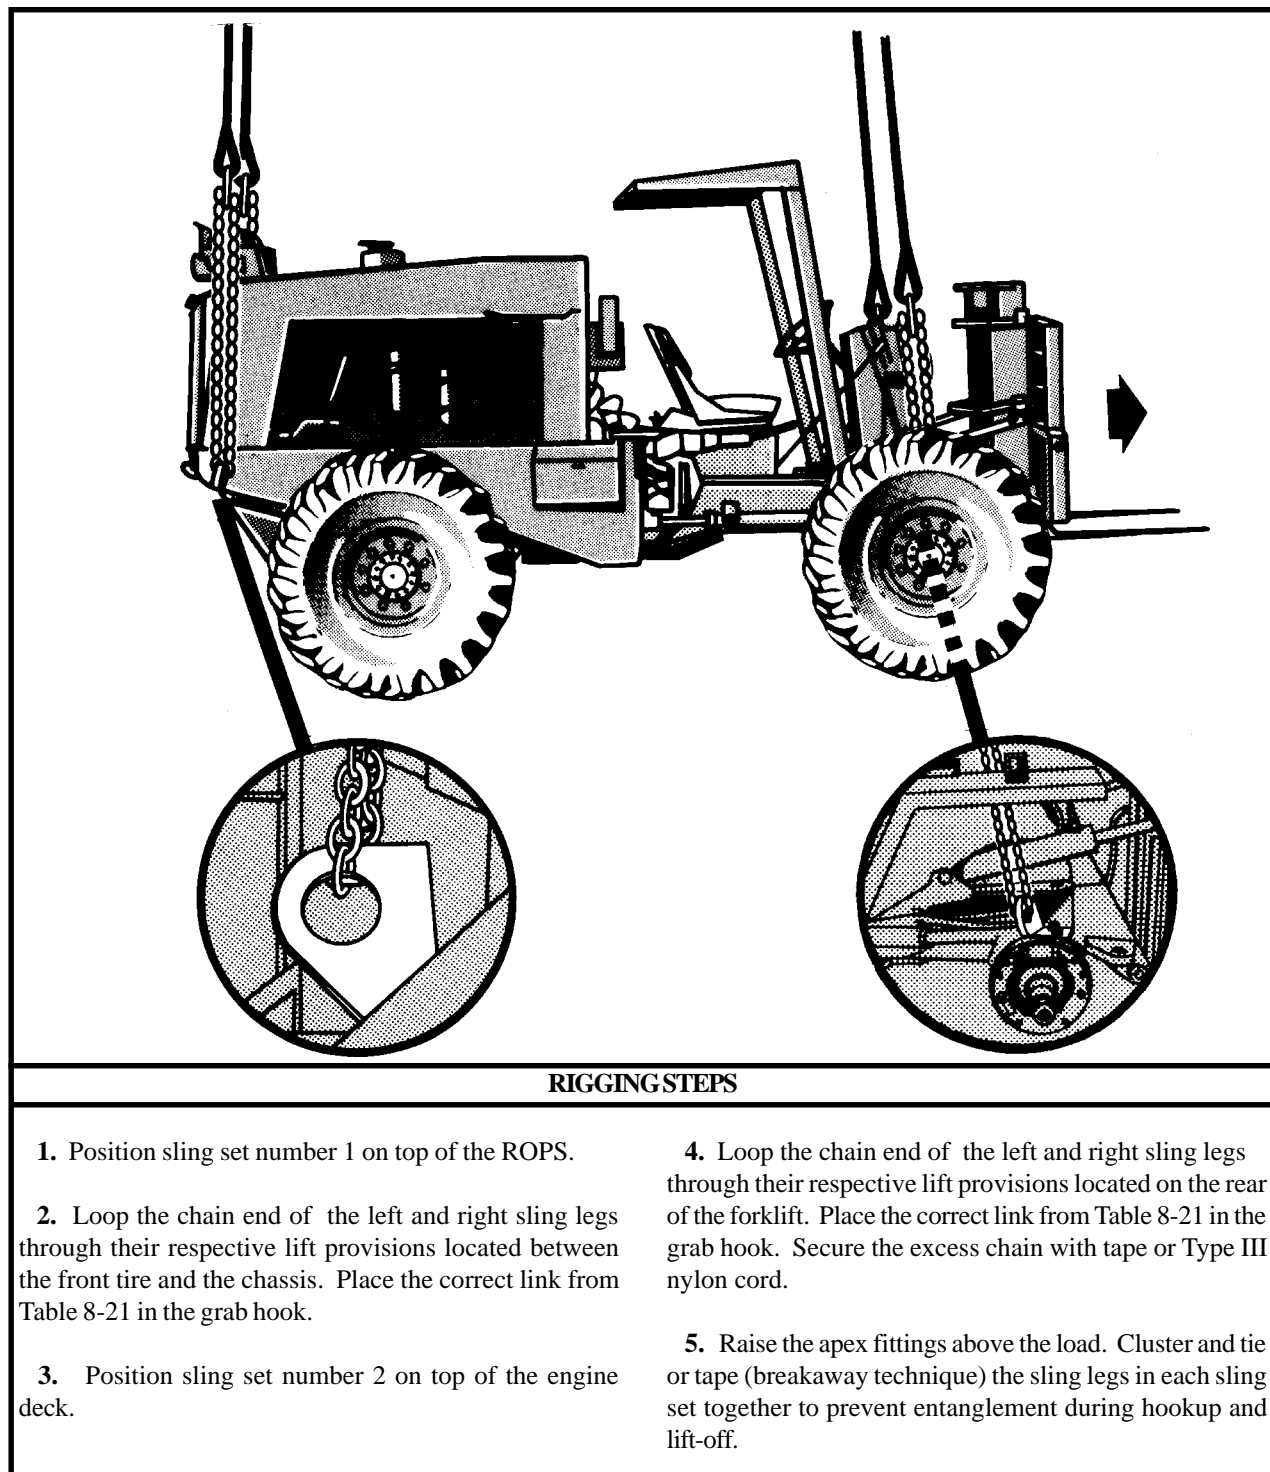

Figure 8-21. Truck, Forklift, MC-4000
(2) **Rigging.** Rig the load according to the steps in Figure 8-21.